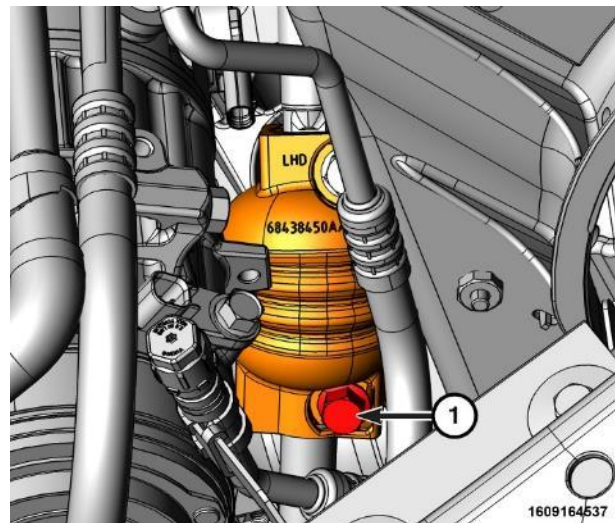

Figure 22 – U-Joint Coupling
6. U-joint coupling replacement is **ONLY** necessary if bolt thread in previous step were damaged. If bolt threads were **NOT** damaged, skip this step for U-joint coupling replacement (Figure 22).
- b) Remove and **DISCARD** the lower steering column shaft coupling pinch bolt (1) (Figure 22).
- e) Obtain a **NEW** pinch bolt and install it in the U-joint coupling lower hole (1) then tighten the bolt to 45 N·m (33 Ft. Lbs.) (Figure 22).